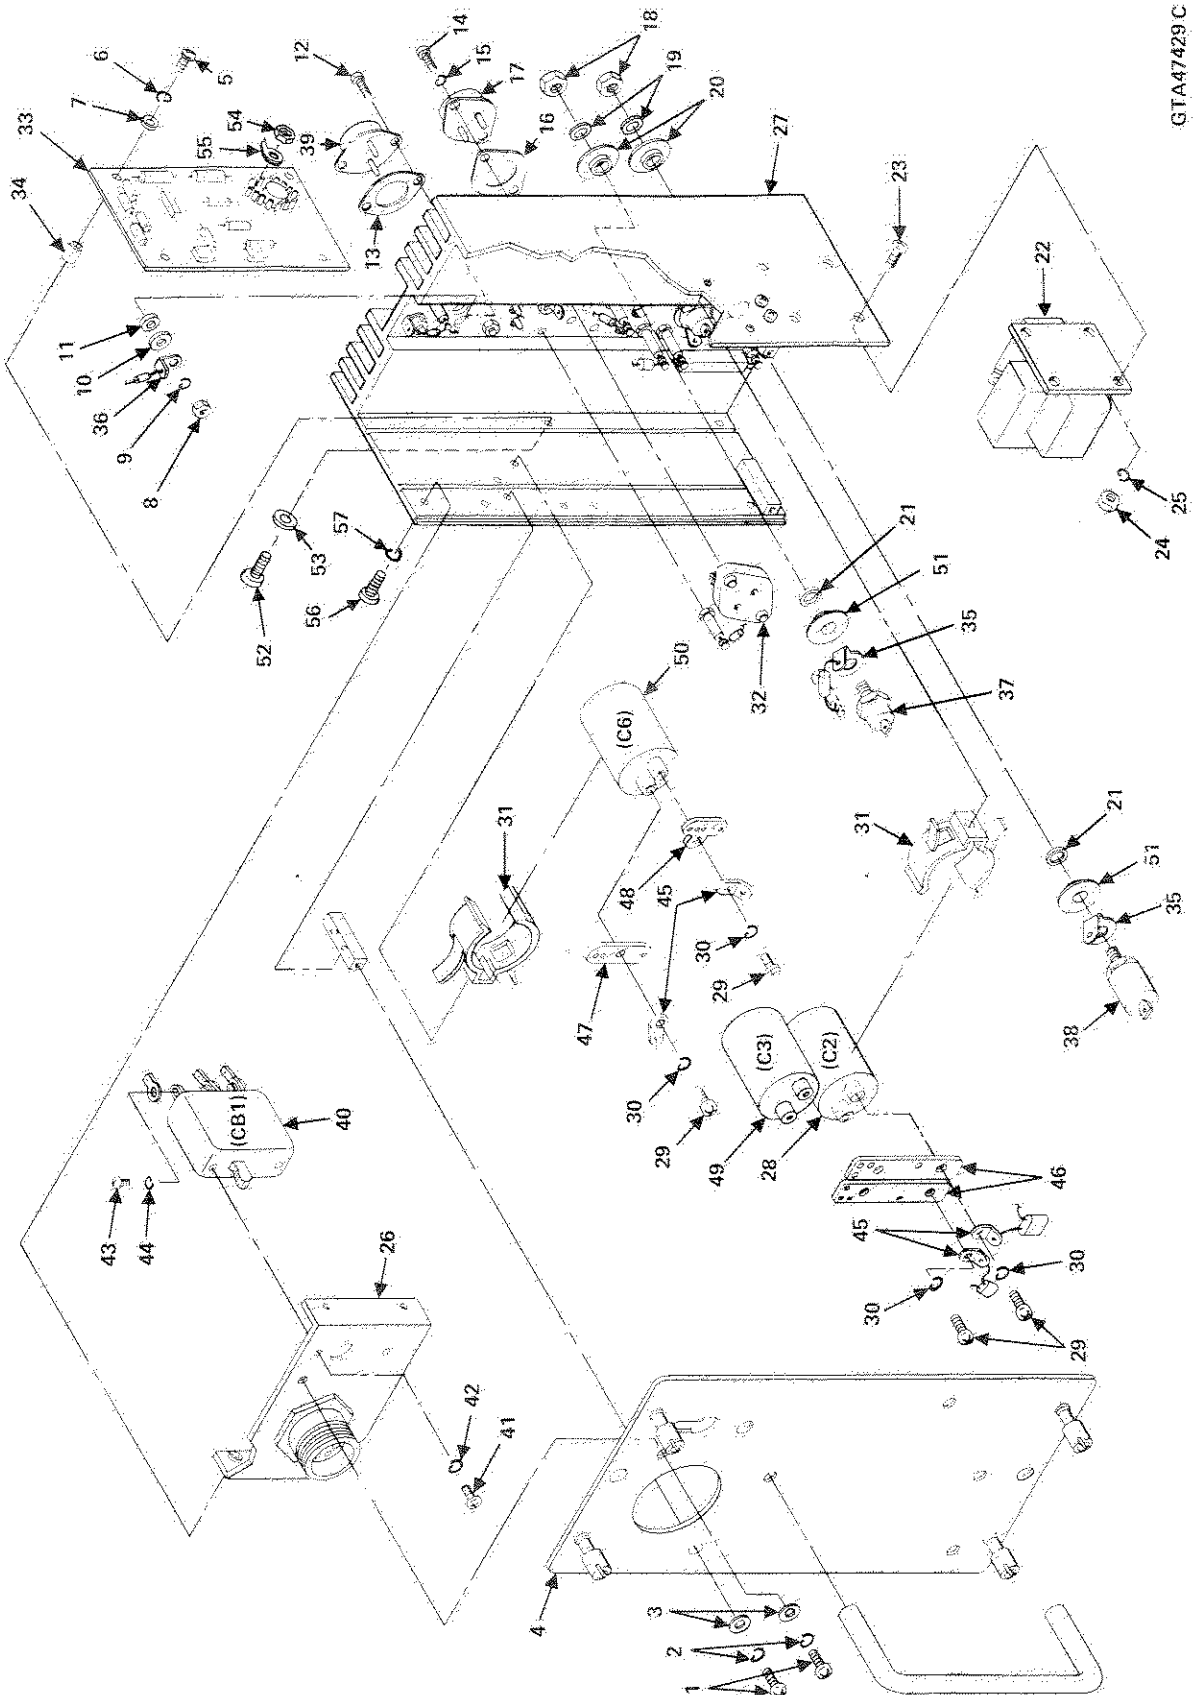

Figure 6-127. Voltage Regulator (77D609500G1 or 77D609503G1)
1. Disassembly procedure (Figure 6-127).
Only transistor Q3 (39) is shown removed from chassis in Figure 6-127. Transistor Q2 mounting is identical.
- (1) Remove cover (4) as described in step 1.a.
- (2) Remove circuit breaker bracket (26) from chassis (27) to gain access to transistors. Remove screw (56) and lockwasher (57) four places. Move bracket for access to transistors. Set screws and washers aside.
- (3) Identify transistor Q2 or Q3 to be removed.
- (4) Tag wires connected to emitter and base terminals of transistor as necessary with identification markers.
- (5) Unsolder and remove wires connected to emitter and base terminals of transistor.
- (3) Carefully remove plate insulator (16) from chassis and transistor Q1 (17) from socket (32). Retain plate insulator (16) and mounting hardware.
- e. Diodes CR1, CR2, or overvoltage protector U1 removal. Only diode CR1 (37) and overvoltage protector U1 (38) are shown removed from chassis in Figure 6-127. Diode CR2 mounting is identical to CR1 mounting.
- (2) Identify diode CR1, CR2, or overvoltage protector U1 to be removed.
- (3) Unsolder and remove wire from center terminal of diode or overvoltage protector to be removed.
- (4) Remove nut (18), flat washer (19), and rear plate insulator (20) from the mounting stud of the diode or overvoltage protector. Retain plate insulator and mounting hardware.
- (5) Carefully remove diode or overvoltage protector from chassis. Remove plate insulator (51), insulating washer (21), and terminal clip (35) from diode or overvoltage protector mounting stud.
2. Assembly procedure (Figure 6-127).
a. Circuit breaker CB1 (40) installation.
- (1) Refer to Figure 6-127 for assembly and position terminals to align properly with circuit terminals according to polarity noted in step 1.g.(4).
- (2) In this position, snap capacitor into retainer (31).
- (3) Position terminal/bus bar (47, 48, or 46) to capacitor terminals; secure with two screws (29), lockwashers (30), and terminal clip (45) retained in step 1.g.(3).
c. Reactor L1 (22) installation.
- (1) Position terminal clip (35), plate insulator (51), and insulating washer (21) on mounting stud of replacement CR1, CR2, or U1. Refer to Figure 6-127 for proper orientation of clip and insulators.
- (2) Insert mounting stud through chassis; slip plate insulator (20) on the stud extending through chassis (27) as shown in Figure 6-127.
- (3) Secure to chassis using nut (18) and flat washer (19) retained in step 1.e.(4). Tighten nut (18) to 12 to 15 inch-pounds torque using a torque wrench and 7/16 inch socket.
- (4) Connect and solder wire removed in step 1.e.(3) to center terminal of diode or overvoltage protector.
e. Transistor Q1 (17) installation.
- (1) Slide plate insulator retained in step 1.d.(3) over terminal end of transistor Q1.
- (2) Support transistor socket and insert transistor Q1.
- (3) Refer to Figure 6-127 for assembly and position transistor Q1 and socket to align screw holes in transistor Q1, socket (32), plate insulator (16), and chassis (27).
- (4) Using two screws (14) and lockwashers (15) retained in step 1.d.(3), secure transistor Q1 and socket (32) to chassis. Make sure mounting screws (14) remain centered in holes to prevent contact with the chassis.
- (1) Using plate insulator (13) retained in step 1.c.(6), refer to Figure 6-127 for assembly. Position plate insulator (13) centered on transistor mounting hole.
- (2) Secure transistor to chassis using insulator (11), two mounting screws (12), flat washers (10), lockwashers (9), terminal clip (36), and nuts (8). Center the transistor and plate insulator to prevent contact with the chassis.